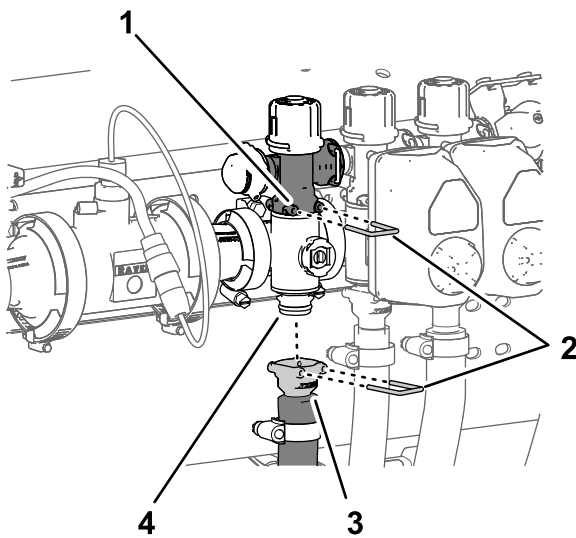

Figure 125
1. Remove the quick-connect pin that secures the quick-connect coupler for the section-bypass valve to the section-manifold valve (Figure 125).
2. Remove the quick connect pin that secures the quick-connect coupler for the section supply hose to the manifold for the quick-connect fitting of the section-manifold valve (Figure 125).